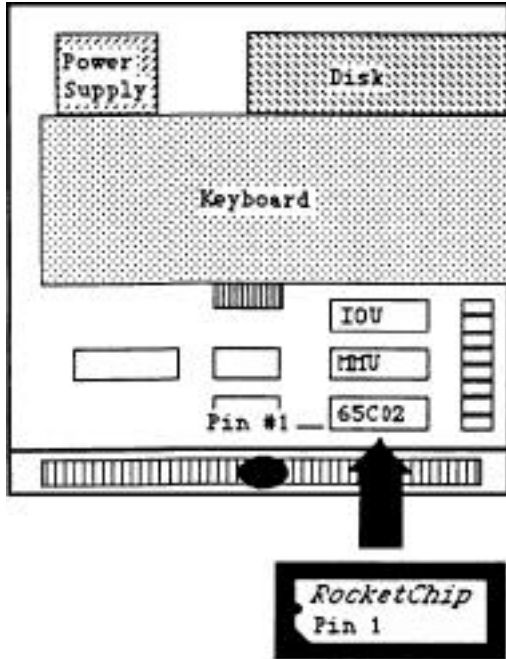

Figure 4 - Apple IIc Motherboard
Grasp the Apple IIc keyboard assembly and gently lift the front edge (about 1/4") and then pull it forward out of the case (about 1/2") to release the tabs on the back of the keyboard from the slots in the disk drive housing. Do not disconnect the flat cable that connects the keyboard to the computer motherboard. Gently fold the keyboard up and rest it on the computer as shown in Figure 4.
**Important Note for you to read:** Both your original microprocessor and *RocketChip* can be damaged by static electricity, therefore, before touching the 65C02 or removing *Rocketchip* from the anti-static protective package, it is necessary for you to GROUND YOURSELF by touching the disk drive assembly with your hand to remove any static electricity. The location of the disk drive is shown in Figure 4
**Touch the disk drive housing.** The location of the 65C02 is shown in Figure 4. Use an IC chip puller tool or a small flat-bladed screwdriver to carefully remove the 65002 from the socket on the motherboard. To avoid damaging the 65C02, try to work the part straight out of the socket so that pins do not get bent. If pins do get bent, they can be carefully straightened with long nose pliers.
**Touch the disk drive housing.** Remove the *Rocketchip* from the protective package. Look at Figure 4 and install the *Rocketchip* in the motherboard socket as shown. Please notice that *RocketChip* Pin \*1 is marked and that all of the part number markings for devices on the motherboard and the *Rocketchip* are readable and oriented the same way. Before pushing *RocketChip* fully into the socket, make sure that Pin \*1 is oriented correctly and that all 40 pins of the *RocketChip* are properly aligned in the socket and that they are not bent.